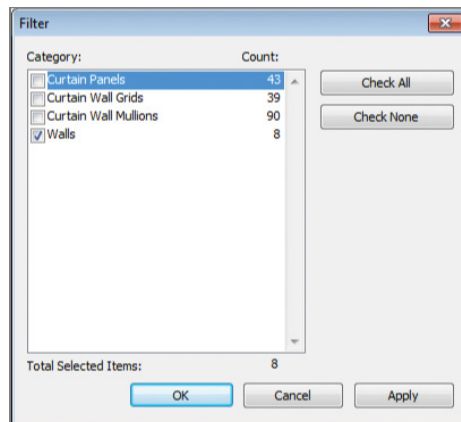

FIGURE 10.11 Isolating walls with the Filter tool
6. For the final selection, select all the remaining walls that are visible in the view, and then select the Filter tool again. This time, choose only Walls in the Category list (Figure 10.11). Elements such as curtain panels, grids, and mullions automatically belong to their parent workset: Walls.